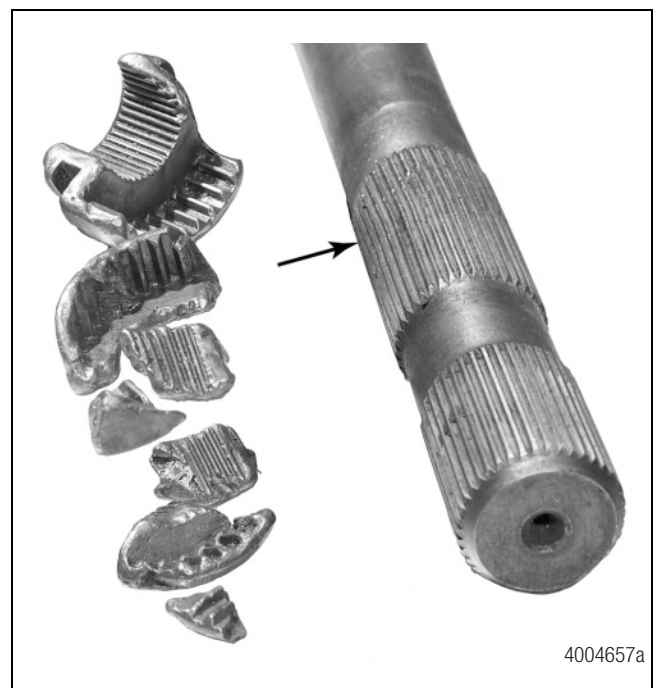

Figure 4.53
**Primary Damage:** The DCDL collar is broken into many pieces. Figure 4.53.